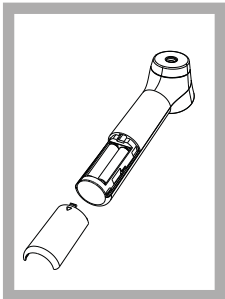

Figure 10
3. Remove battery and install 2 new AAA alkaline batteries as shown in Figure 10 .